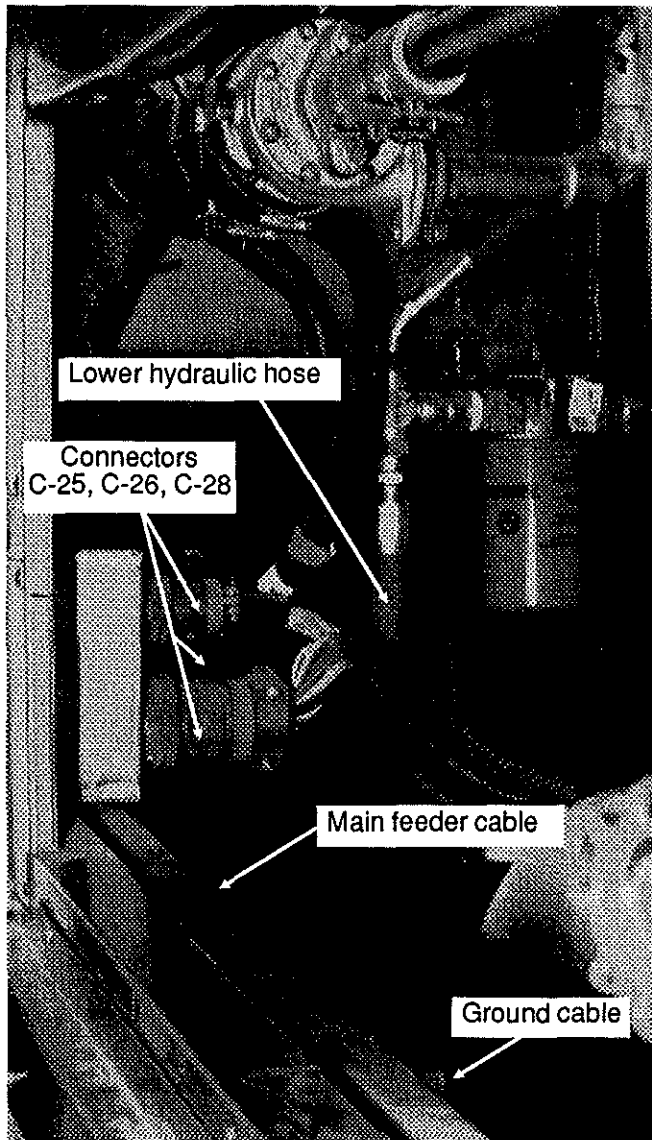

FIG. 10
33. Disconnect the engine cradle ground cable from the structural member (see fig. 10).
34. Disconnect the wiring harness connectors (C-25, C-26, C-28) from "Engine" junction box (see fig. 10).
35. Disconnect the main feeder cable from the engine junction box (see fig. 10).
36. Disconnect the lower hydraulic hose from the Tee fitting of the hydraulic oil filter (see fig. 10).